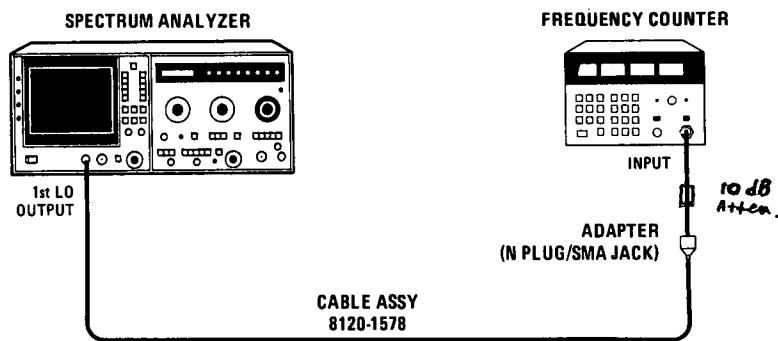

Figure 4-1. Tuning Accuracy Test Setup
4. Connect equipment as shown in Configuration A of Figure 4-1. Comb generator is connected to INPUT 50Ω connector of spectrum analyzer.
15. Disconnect comb generator from spectrum analyzer input. Connect sweep oscillator and frequency counter as shown in Configuration A of Figure 4-1.
**Use HP 8350A/83570A with appropriate adapters in place of 8620C/86290A, Configuration A of Figure 4-1.
17. Connect equipment as shown in Configuration B of Figure 4-1.